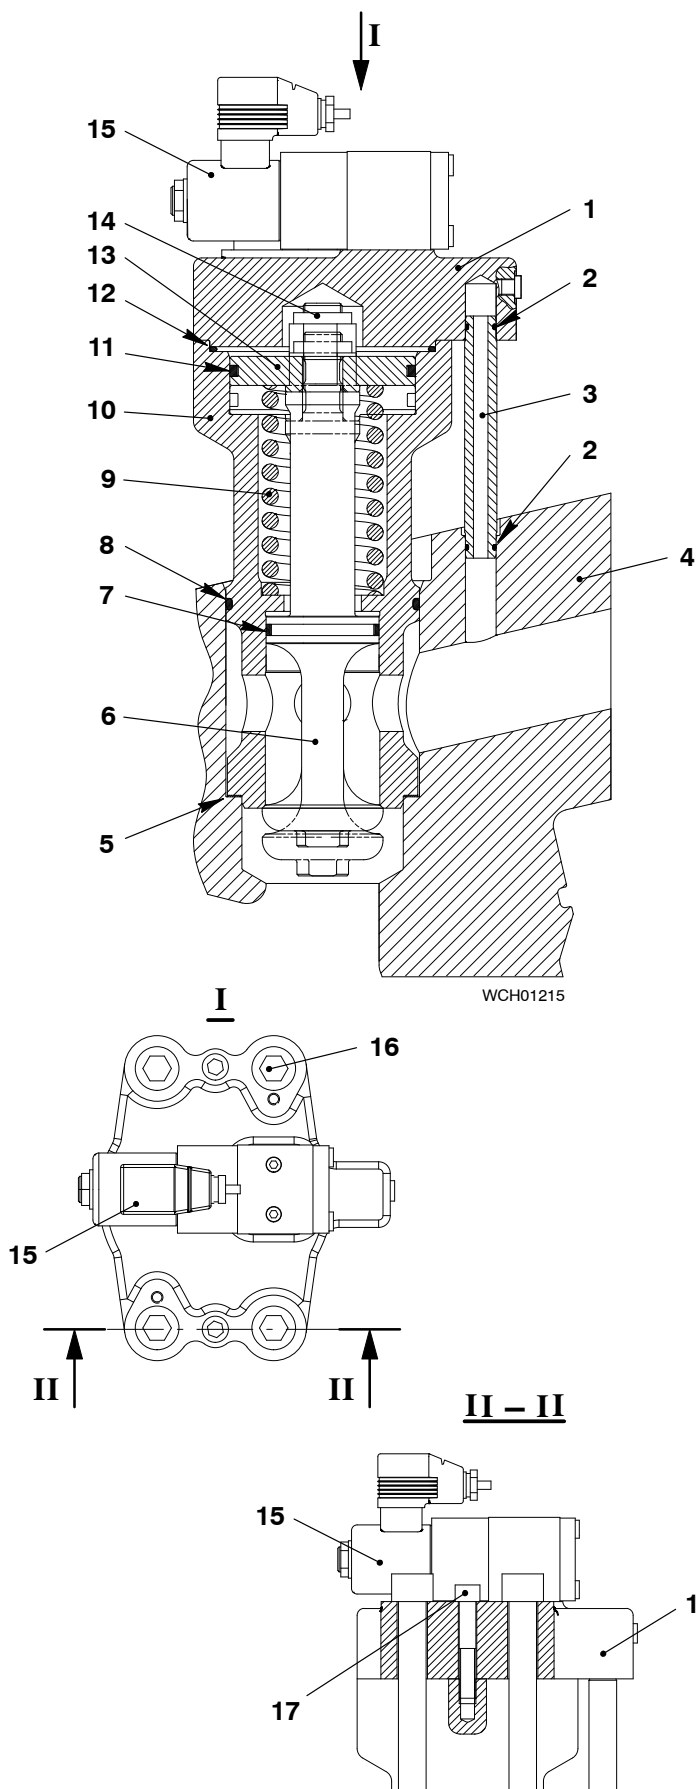

Fig. 3
- 2) Put a small quantity of oil on all the parts and the new O-rings (2, 8 and 12, Fig. 3)
- 3) Put the two O-rings (2) on the pipe (3).
- 4) Put the O-rings (8) and (12) in the housing (2).
- 5) Put the the valve spindle (6) into the housing (2).
- 6) Put the compression spring (9) into the housing (2).
- 7) Put the piston (13) in position on the valve spindle (6).